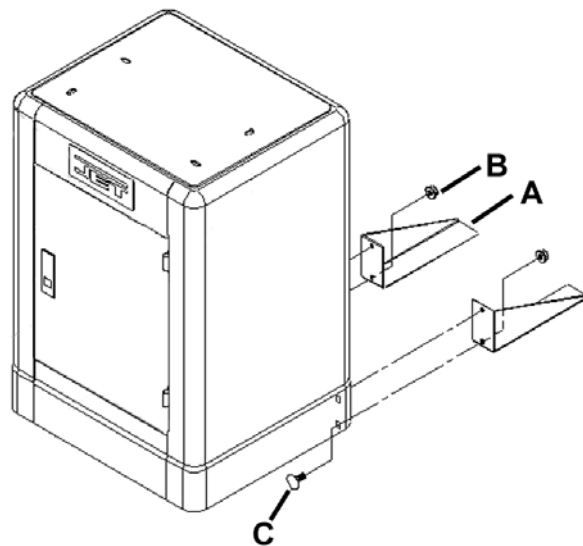

Figure 1
1. Using four M6x16 carriage bolts (C, Fig. 1) and four M6 nuts (B, Fig. 1) attach the stand supports (A, Fig. 1) through the saw cabinet. The bolt must be attached from the inside bottom of the saw cabinet (fig 1). To do this it is easiest if you tilt the saw cabinet on its front and then install the hardware.
2. Place cabinet stand upright on a level surface. If the surface is uneven then you should level the stand supports by loosening the nut (B, Fig 1) and moving the support up or down to prevent the stand from rocking, then tighten the nuts.